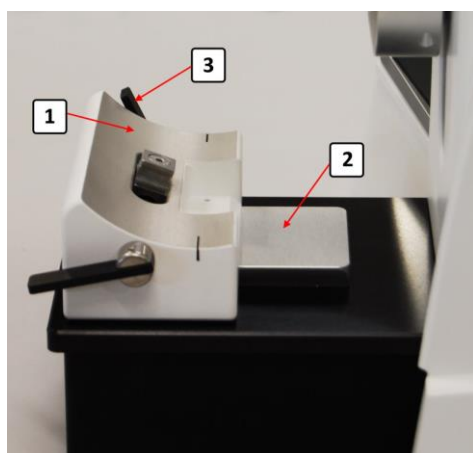

Figure 74
The knife carrier for disposal blades (DBC), model MR (1) consists of the segment (2) and the holder (3). The groove (4) of the segment engages with the counterpart at the knife carrier base (see Fig.74). The DBC, model MR, is suitable for lateral adjustment of the holder part for convenient usage of the full length of disposable blades. The holder takes all brands of low profile and high-profile blades. For insertion of high-profile blades, the support strip (5) must be removed. The holder also incorporates a finger guard (6) for user protection.
The knife carrier for disposal blades (DBC) model ME consists of a holder part (1), a clamping plate (2) with a finger guard (3). The groove (4) of the holder part (1) engages with the counterpart at the knife carrier base (see Fig.74). The DBC, model ME takes all brands of low profile and high-profile blades. For insertion of high-profile blades, the support strip (5) must be removed. The holder also incorporates a finger guard (3) for user protection. The clamping lever (6) serves for clamping of the blade. When open, blades can be exchanged and the clamping plate can be moved laterally.
The knife carrier for solid microtome knives (SKC) (1) engages with its groove (2) with the counterpart at the knife carrier base (see Fig.74). The SKC takes all types of standardized C- and D-profile microtome knives. A knife height adjustment via the curled disks (3) is offered to overcome the reduced height of re-sharpened knives. The holder also incorporates a finger guard (4) for user protection.